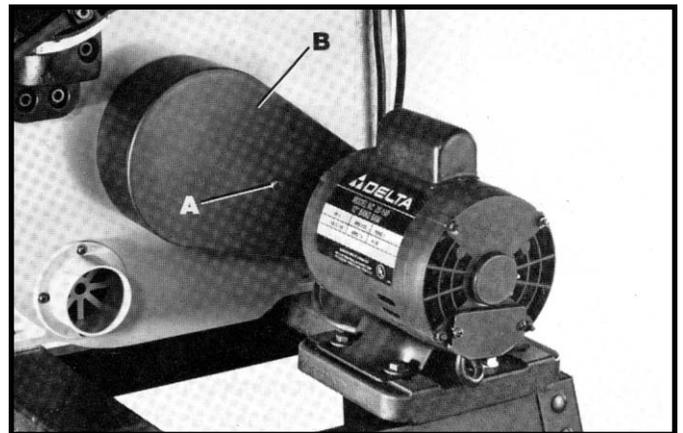

Fig. 29
2. Remove screw (A) Fig. 29, and belt and pulley cover (B).